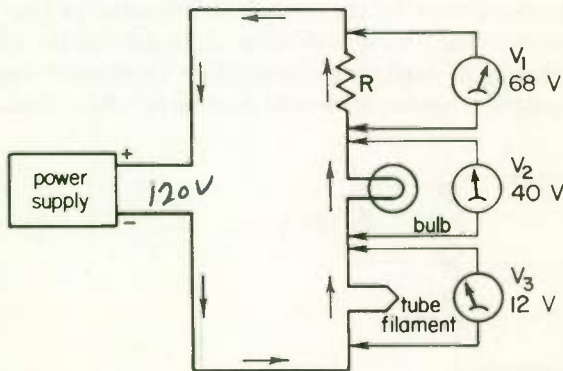

Fig. 43
1. What must the power supply voltage be in Fig. 43?
2. What voltage rating should the bulb in Fig. 43 have in order to operate at normal brilliancy? 40V
3. The tube used in the circuit of Fig. 43 should have a filament designed to operate on 12 volts.